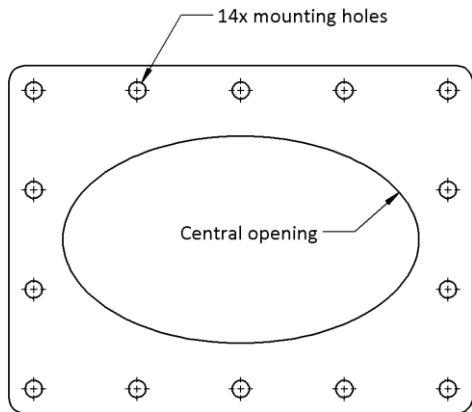

Figure 7 – Backing plate for transom-mounted thrusters
1. Place the thruster backing plate at the desired location and trace the central opening (see Figure 7 on the next page).